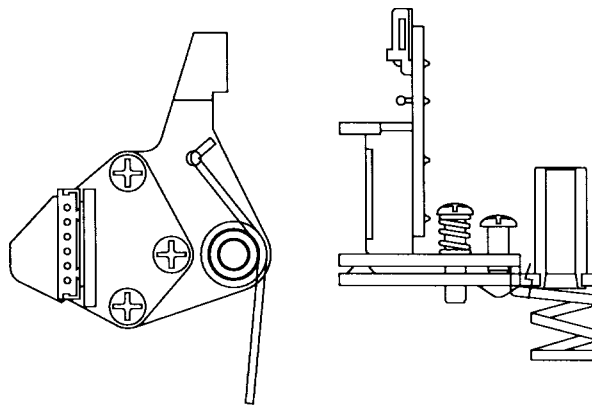

Fig. 19-1 A/C Head Assembly Alignment
2. Remove the A/C head assembly (2) and remove the A/C head spring (3) from the A/C head assembly (2). (Fig. 19-1)